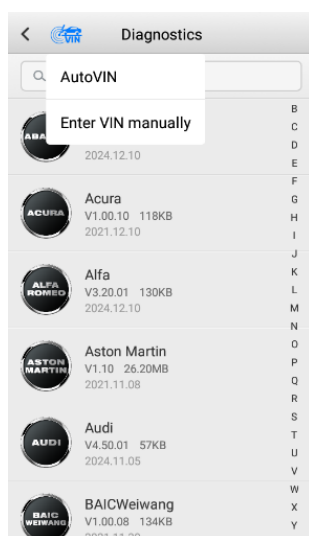

Figure 4-3 VIN Screen
2. Tap the **VIN** button (Figure 4-3) to open the dropdown list and select **Enter VIN Manually**.